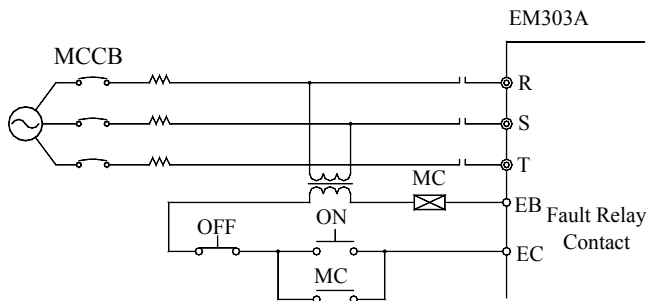

Figure 3-4 Connecting to Input Circuit Breaker
- If single MCCB is shared by two or more inverters or other devices, the contact of fault output relay shall be connected to power contactor coil, so that the power supply will be turned off by the fault signals, as shown in Figure 3-4.
Install an electromagnetic contactor which is applicable to inverter as shown in Figure 3-4.